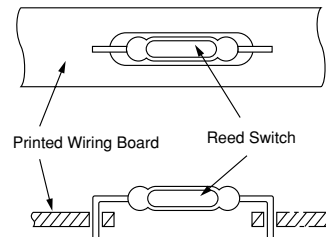

Fig. 6 Example of mounting of reed switch on warped printed wiring board
(3) When the reed switch is mounted on the printed circuit board while the glass tube remains in direct contact with the printed circuit board, the glass tube may crack if the printed circuit board has large warpage. To prevent cracking, the reed switch is mounted so as to be lifted off from the surface of the printed circuit board, or the reed switch is mounted such that the terminals cross over a depression or a cutout formed in the printed circuit board, as shown in Fig. 6.